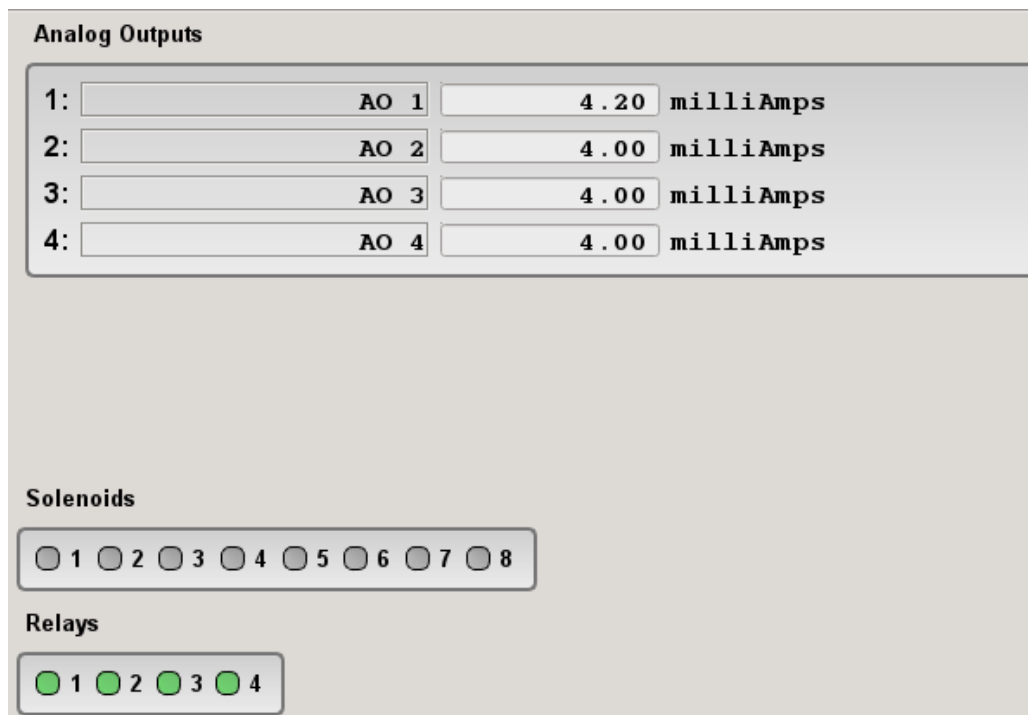

Figure 15: Outputs Panel
The Outputs panel shows the current status of the AccuLase-GPA™ IO board's analog outputs (up to 4, one per configured stream), solenoid outputs (8), and solid-state relays (4). It is shown in Figure 15.